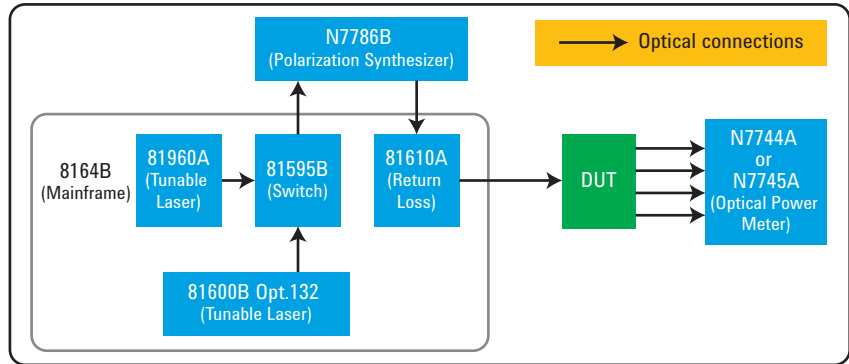
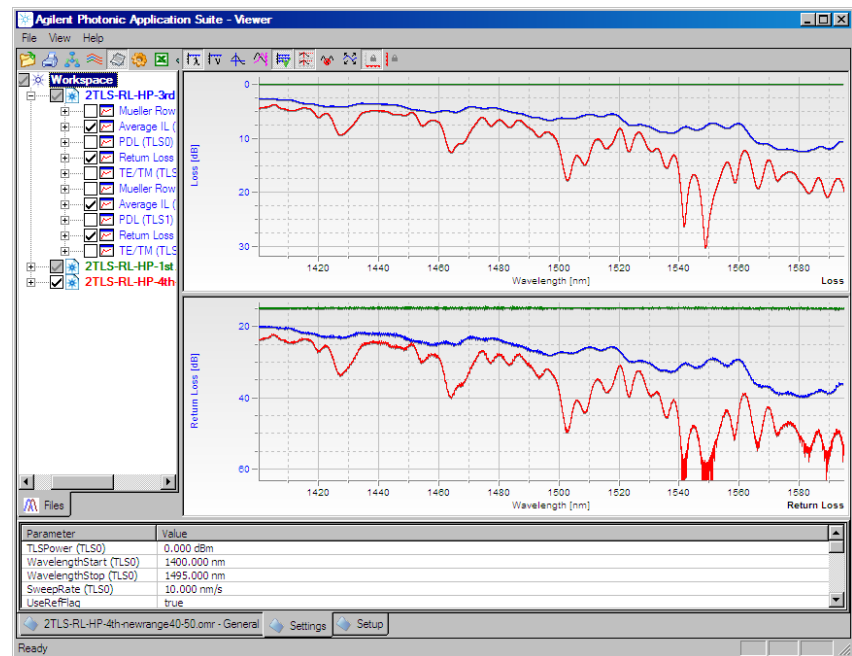

Figure 6. Example IL/PDL configuration using 2 switched lasers and the return loss module.
Figure 7. Sample measurements using two lasers to measure from 1400 to 1600 nm, including return loss.
- The wavelength range can be extended by using 2 or 3 tunable lasers, which can be chosen for the desired wavelength range. For example a configuration like in Fig. 6 can be used for tests in the O-band, C-band and L-band. The 81600B with option 132 or 130 tunes from 1260 to 1375 nm and the 81960A tunes from 1505 to 1630 nm. Wider ranges and higher spectral dynamics can be obtained by combining 2 or 3 81600B low-SSE lasers, even over the full 1260 to 1640 nm single-mode fiber wavelength range. The measurement runs automatically, like with a single laser, using the 81595B switch. Results are shown as a single graph, possibly with a gap or overlap between the measured wavelength ranges.
- Polarization-averaged return loss can be measured by including the 81610A (or other model) return loss module, as shown in Fig. 6. An example including two tunable lasers is shown in Fig. 7, where the insertion loss was progressively increased to increase the return loss from an open FC/PC connector. Here the RL range extends beyond 55 dB.